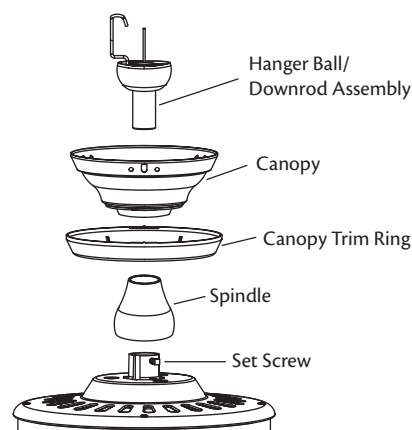

Figure 11 - Assembling the downrod
- Insert the downrod through the canopy, canopy trim ring and spindle as shown in Figure 11. Feed wires from the fan through the downrod.
- Screw the downrod into the fan assembly until tight. **IMPORTANT!** Tighten downrod set screw as shown in Figure 11.